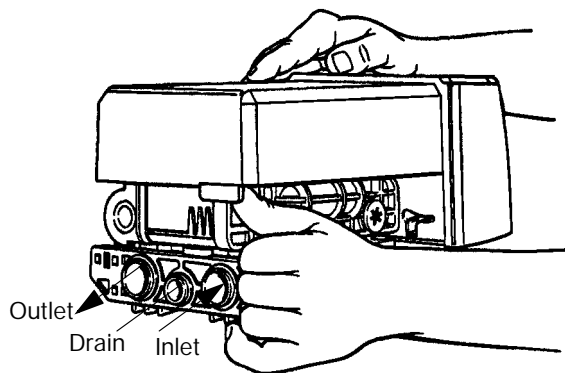

Figure 10
3. Remove the rear cover by pushing back on the tab provided on the cover, Figure 10. Next, lift the rear cover off the valve.